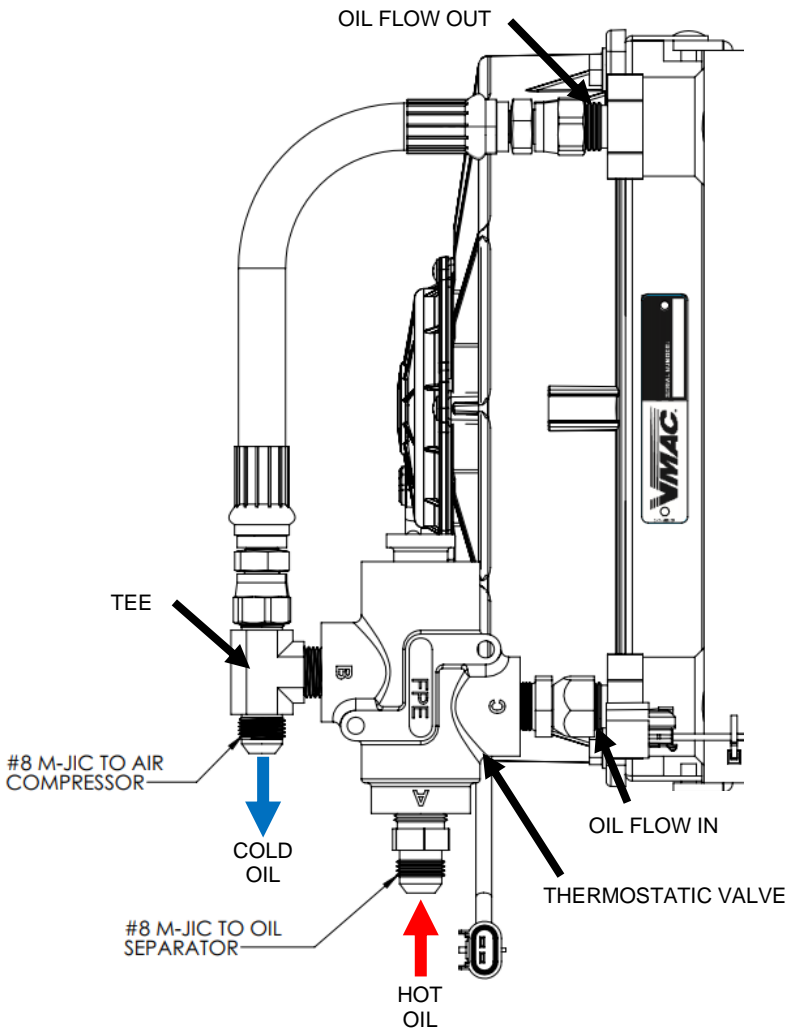

Figure 3: Optional Thermostatic Valve
- If using the optional thermostatic valve package, the “Oil Flow Out” fitting is located after the tee. The “Oil Flow In” fitting is located on the thermostatic valve. Refer to Figure 3 and thermostatic valve installation for further reference.